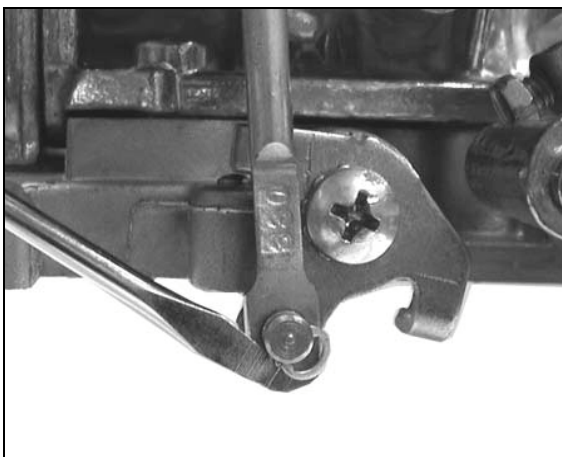

Figure 14
3. Remove the clip retaining the diaphragm plunger to the secondary throttle lever using a small flat-blade screwdriver (Figure 14).